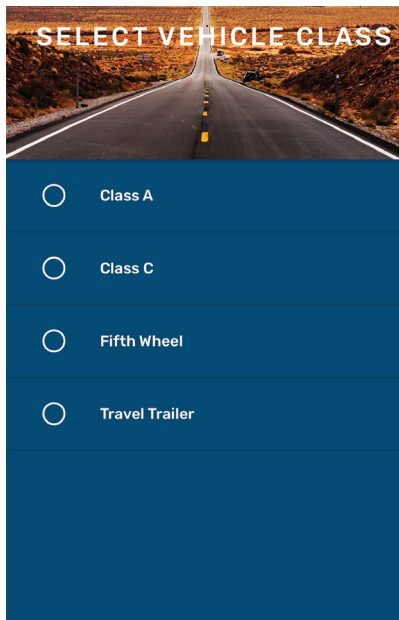

Fig.7
7. Select a vehicle class (Fig.7) and press continue.